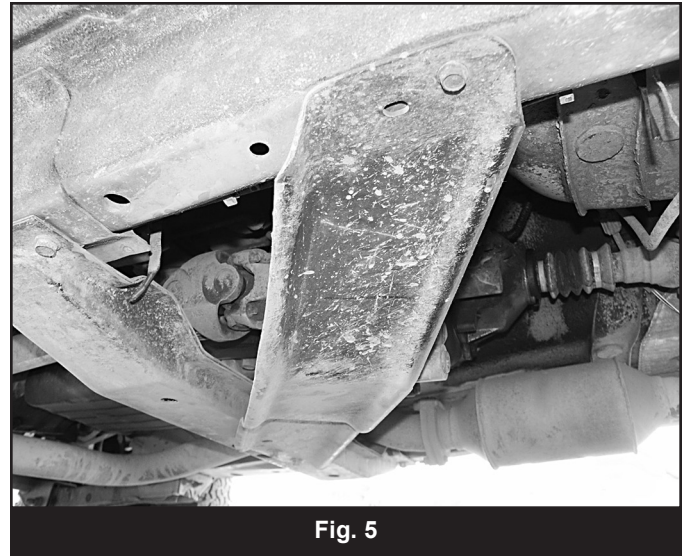

Fig. 5
- ⓘ *Note: If equipped with a factory installed transfer case skid plate, remove that as well (Fig 5). It will not be reused.*